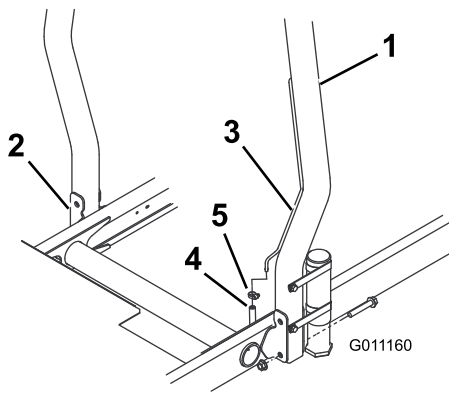

Figure 12
1. Lower the roll bar onto the traction unit mounting brackets, aligning the mounting holes. Ensure that the vent tube on the roll bar is on the left side of the machine (Figure 12).
- Secure each side of the roll bar to the mounting brackets with 2 flange head bolts and locknuts (Figure 12). Torque the fasteners to 81 N·m (60 ft-lb).